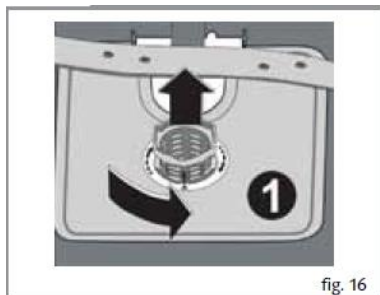

fig. 16
2. Turn the microfilter anticlockwise and then lift it out (figure 16).